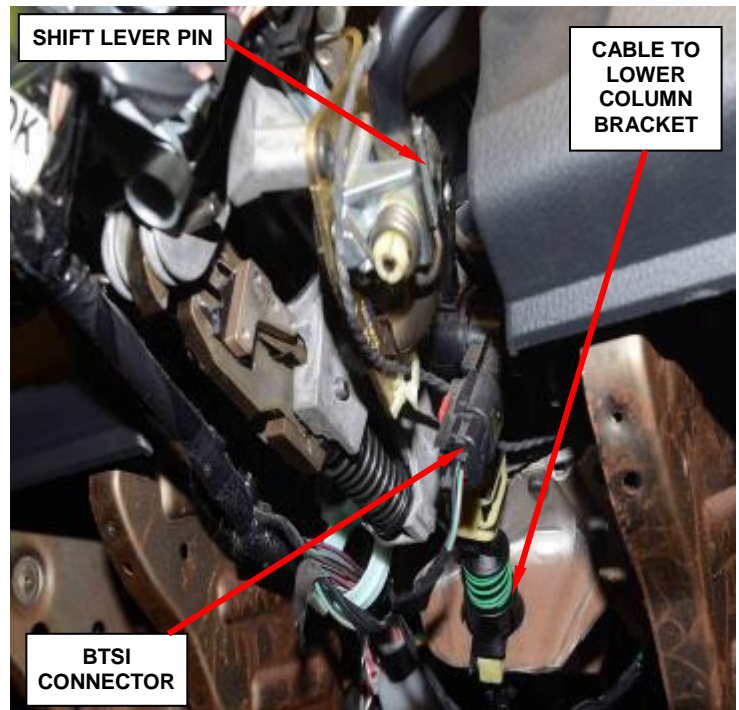

Figure 105 – Gear Shift Cable
13. Disconnect the gearshift cable from the column (Figure 105).